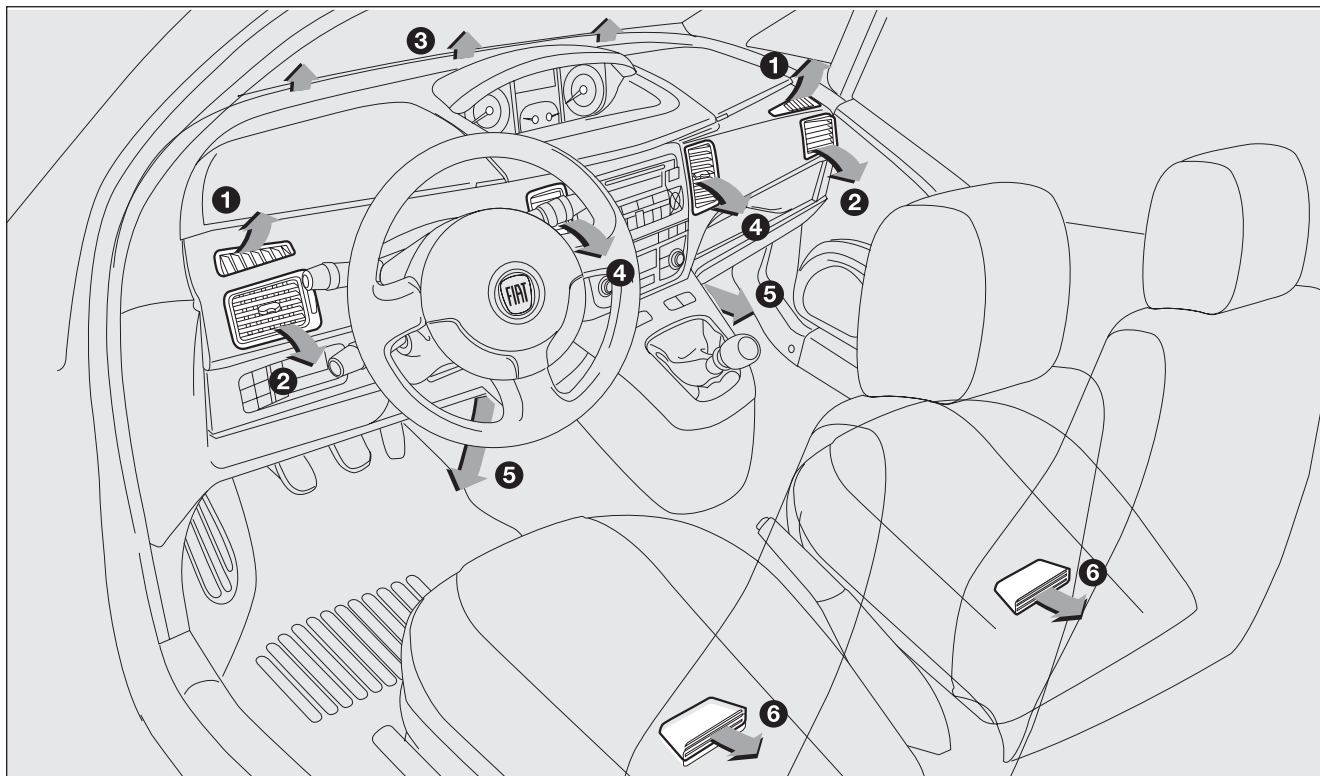

fig. 57
-  air from central vents and side vents 2 and 4 **fig. 57**;
-  air from central side vents 2 and 4 and downward vents 5 and 6 **fig. 57** (bi-level function);
-  air downwards (5) and (6) **fig. 57**;
-  air downwards (5) and (6); and towards the windscreen (3) at the same time **fig. 57**;
-  for demisting and defrosting the windscreen (3) and the front side windows (1) **fig. 57**.
- fully open the central (4) and side (2) air vents **fig. 57**;
- air from central vents and side vents (2) and (4) **fig. 57**;
- air from central side vents (2) and (4) and downward vents (5) and (6) **fig. 57** (bi-level function);
- air downwards (5) and (6) **fig. 57**;
- air downwards (5) and (6); and towards the windscreen (3) at the same time **fig. 57**;
- for demisting and defrosting the windscreen (3) and the front side windows (1) **fig. 57**.